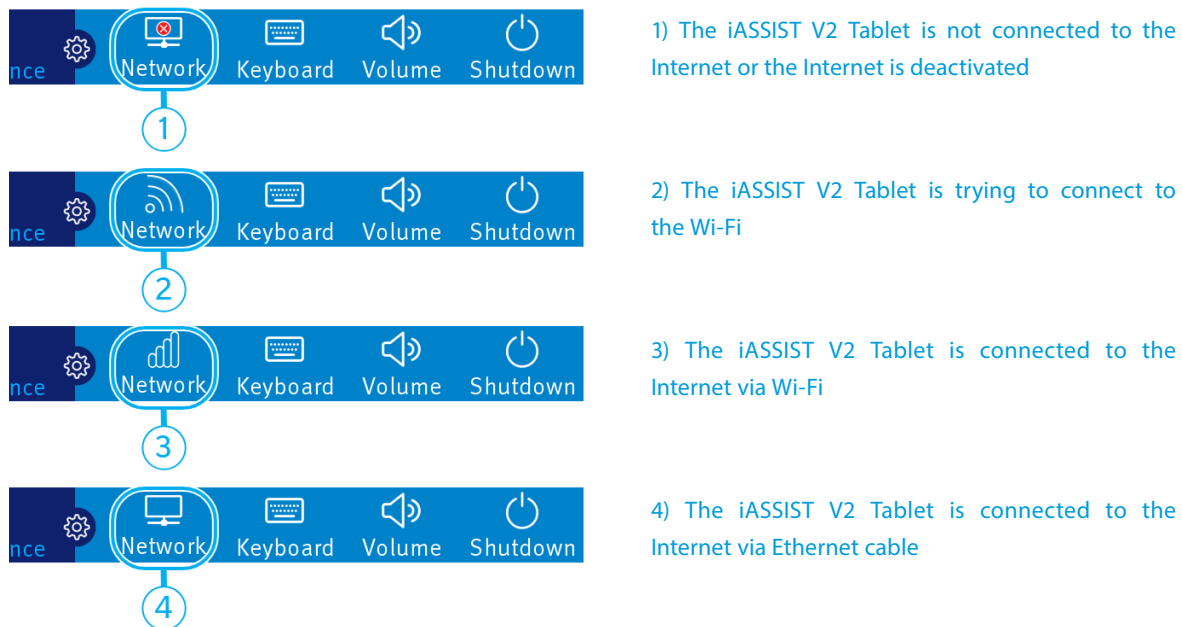

Figure 4.1
1. From the home menu, ensure the Wi-Fi is activated on the tablet (see figure 4.1 for explanations on the network status). If not, press on the “P2” button on the top left side of the iASSIST V2 Tablet.